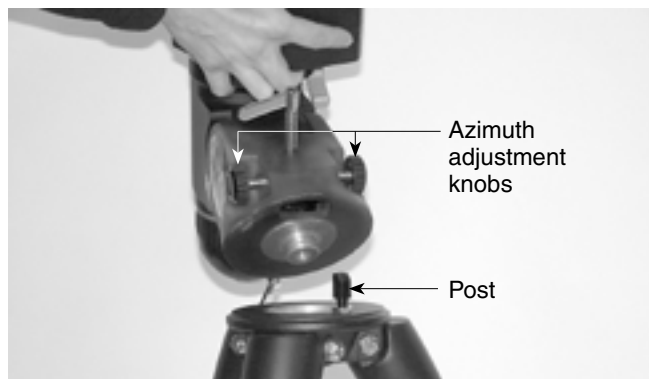
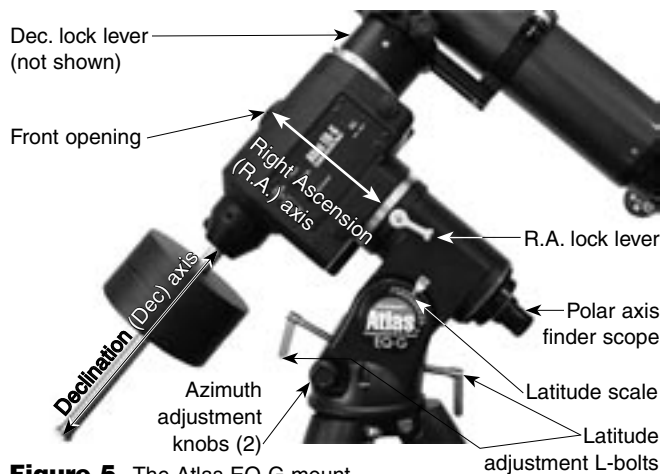
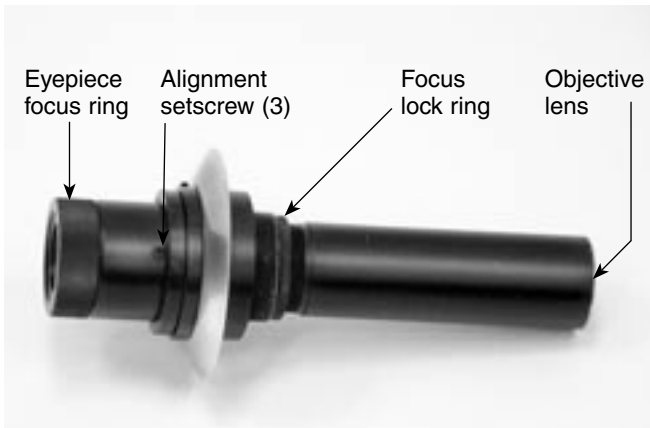

Figure 2. Orient the equatorial head so that the post on the tripod lines up with the azimuth adjustment knobs on the equatorial mount.
Figure 5. The Atlas EQ-G mount.
Figure 7. The polar axis finder scope.
- Place the base of the equatorial mount onto the tripod head. Orient the equatorial mount so that the post on the tripod head lines up with the azimuth adjustment knobs on the equatorial mount (Figure 2). You may need to loosen the azimuth adjustment knobs on the equatorial mount in order to fit the mount onto the tripod head.
(from west to east). An equatorial mount (Figure 5) is designed to compensate for that motion, allowing you to easily “track” the movement of astronomical objects, thereby keeping them from drifting out of your telescope's field of view while you're observing.
- There are two latitude adjustment L-bolts (see Figure 5); loosen one while tightening the other. By doing this you will adjust the latitude of the mount. Continue adjusting the mount until the pointer on the latitude scale is set at the latitude of your observing site. If you don't know your latitude, consult a geographical atlas to find it. For example, if your latitude is 35° North, set the pointer to 35. The latitude setting should not have to be adjusted again unless you move to a different viewing location some distance away.
- Loosen the Dec. lock lever and rotate the telescope's optical tube until it is parallel with the right ascension axis, as it is in Figure 5.
The Atlas EQ-G mount comes with a polar axis finder scope (Figure 7) housed inside the right ascension axis of the mount. When properly aligned and used, it makes accurate polar alignment quick and easy to do. Unthread the cap at the rear of the mount's right ascension axis and remove the cap on the front opening of the equatorial mount (Figure 5) to view through the polar axis finder scope.
- Look through the polar finder again. Is the object being viewed still centered on the crosshairs? If it is, then no further adjustment is necessary. If not, then look through the polar finder while rotating the mount about the R.A. axis. You will notice that the object you have previously centered moves in a circular path. Use the three alignment setscrews on the polar axis finder (Figure 7) to redirect the crosshairs of the polar finder to the apparent center of this circular path.
5. Now use the azimuth adjustment knobs (Figure 2) and the latitude adjustment L-bolts (Figure 5) on the mount to position the star Polaris inside the tiny circle marked "Polaris" on the finder's reticle. You must first loosen the knob underneath the equatorial mount on the center support shaft to use the azimuth adjustment knobs. Once Polaris is properly positioned within the reticle, you are precisely polar aligned. Retighten the knob underneath the equatorial mount.
The polar axis finder scope is normally focused by simple rotation of the eyepiece focus ring. However, if after adjusting the focus ring you find that the image of the reticle is sharp, but the stars are out of focus, then you must adjust the focus of the polar axis finder's objective lens. To do this, first remove the polar axis finder from the mount by unthreading it. Look through the polar axis finder at a star (at night) or distant object at least 1/4 mile away (during daylight). Use the eyepiece focus ring to bring the reticle into sharp focus. Now, loosen the focus lock ring (Figure 7) and thread the entire objective end of the finder inward or outward until images appear sharp. Re-tighten the focus lock ring. Once the polar axis finder's objective lens